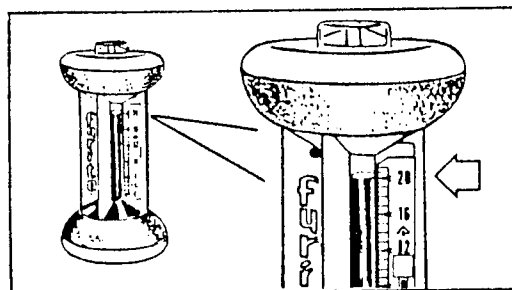

Figure 10
9. With FYRITE held upright (Fig. 10), permit fluid in column to stabilize a few seconds, then immediately read % carbon dioxide on scale at point corresponding to top of fluid column.